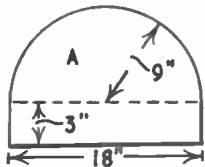
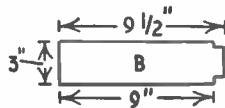
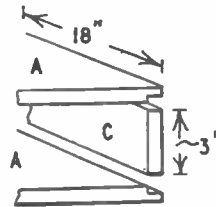
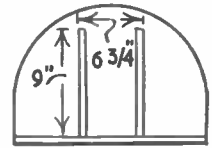

FIG. 1.
FIG. 2.
FIG. 3.
FIG. 4.
The side view and front view in Fig. 1 show that the box portion of the cart can be made up separately. The cart is 18 in. long and 10 in. wide. The depth is 3 in. to suit Hobbies standard panels. The base (3) is cut from $\frac{3}{8}$ in. plywood, and is fixed under the sides (1) and ends (2), as shown in Fig. 2.
Continue by adding the axle supports (4) and the axles (5 and 6), as in Fig. 3. The axle supports are 2 in. by $\frac{1}{2}$ in. wood, and come level with the sides. The axles are 1 in. square stripwood and should
project about 1 in., as seen in the front view Fig. 1.
The front axle can be pivoted if required and the method is shown in Fig. 3. The handle supports (7) are halved into the axle and should be well glued for strength. They are of 1 in. square wood.
The handle (8) is $\frac{1}{2}$ in. thick and 2 in. wide at the bottom. It is pivoted by means of a piece of $\frac{3}{8}$ in. round rod (Fig. 4). Piece 9 is of $\frac{1}{2}$ in. round rod and should be about $4\frac{1}{2}$ in. long.
Begin with the two curved pieces (A, Fig. 1), which are marked out as shown. The curve can be cut with a fret-
saw, after which the edges are cleaned up with glasspaper. Cut the two side pieces (B, Fig. 2) and one back piece (C, Fig. 3). C will be 18 in. long, and all three are 3 in. wide. The side pieces are housed into the curved pieces, the positions of the housings being shown in Fig. 4. Cut the housings by carefully removing three layers of ply. The inside back edges of pieces A are recessed, again to a depth of three layers of ply, to take the back piece (see Fig. 3).